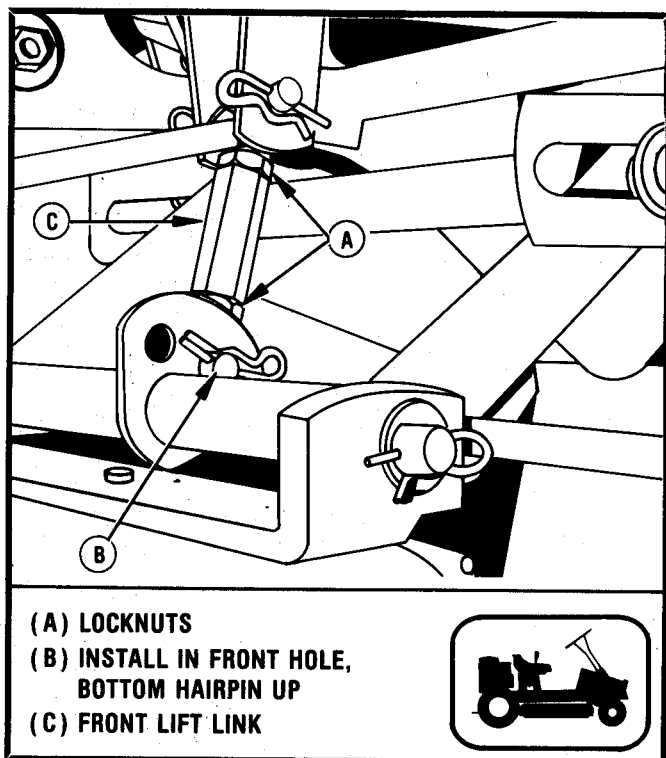

FIGURE 1-14
- a. After checking for the mower height and blade pitch, remove the front lift link assembly (627070) by removing the two hairpins securing it to the front lift arm and strap. See Figure 1-14.